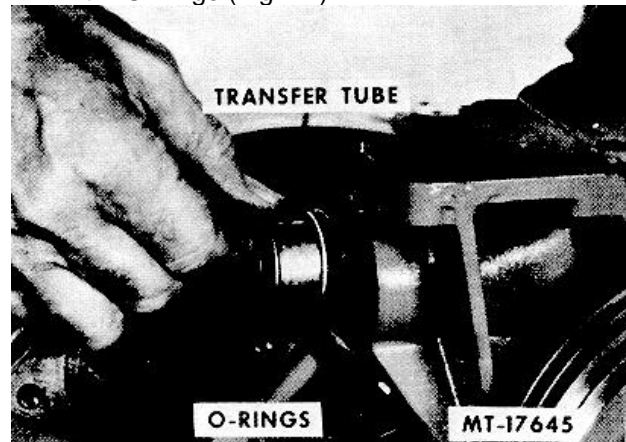

Fig. 27
26. Remove right bank water outlet transfer tube with "O" rings (Fig. 27).